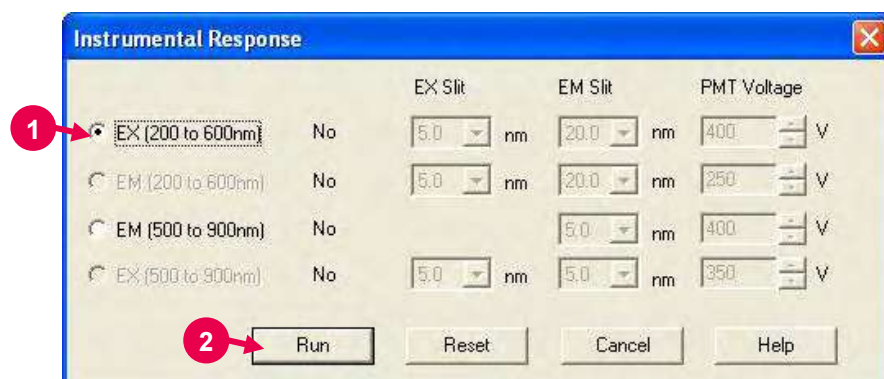

Fig. F-4
- (7) Execute the Instrumental Response command from the Utility menu. The Instrumental Response dialog box will open as shown in Fig. F-4.
Select "EX [200 to 600 nm]." (Refer to ① in Fig. F-4.)
- (8) Click the **Run** button. (Refer to ② in Fig. F-4.)